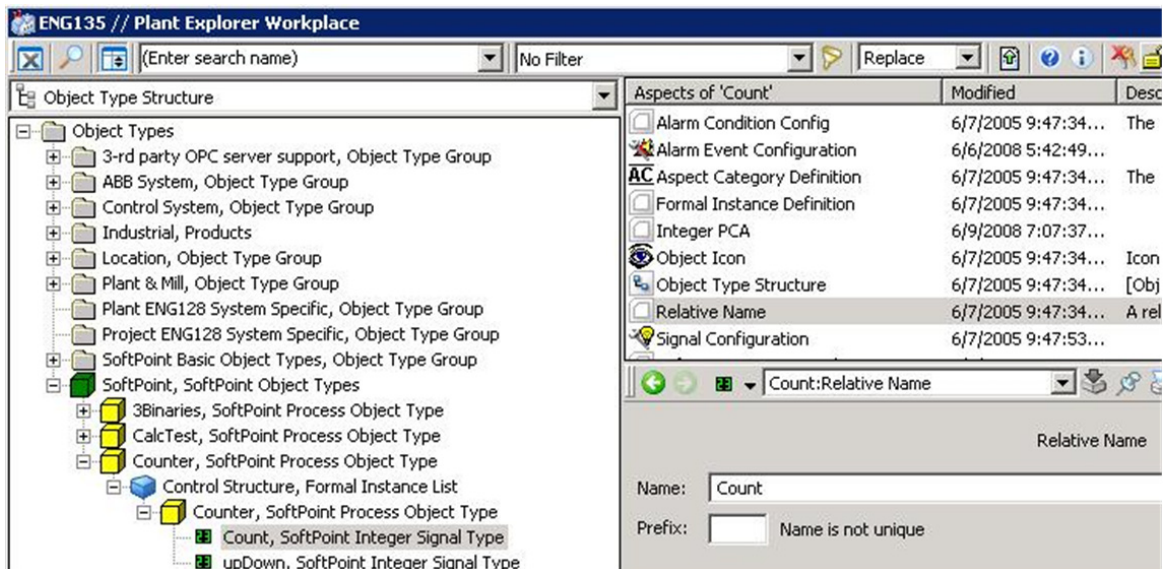

Figure 72. Example, Relative Name Aspect
2. Use the Relative Name aspect for each of the two binary signals to specify a relative name: for example **START** and **STOP**, Figure 72.